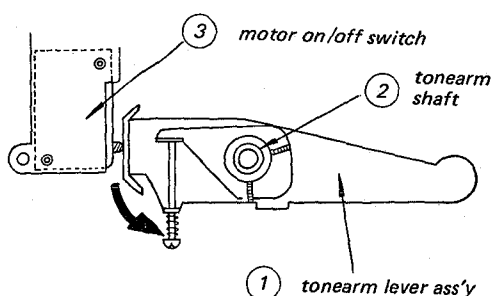

Fig. 1-1. Tonearm lever ass'y movement
The turntable starts to rotate when the tonearm is lifted from its rest and moved toward the first groove of the record. The tonearm lever ass'y ① which is attached to the end of the tonearm shaft ② rotates and releases the motor on/off switch ③ as shown in Fig. 1-1, so that the motor is switched on.